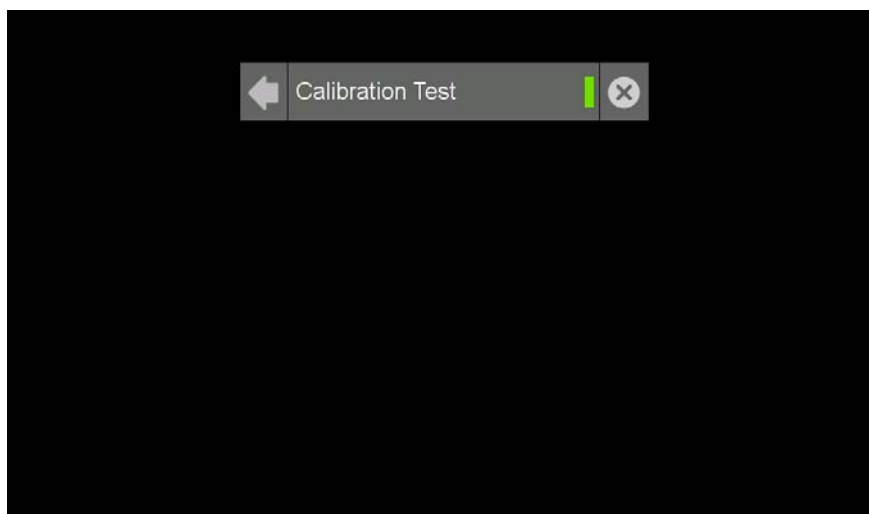

FIG. 12 Calibration Test page
In certain circumstances, you may wish to test the calibration of a panel without actually recalibrating it. The *Calibration Test* page (FIG. 12) may be used to verify the accuracy of that calibration.
3. To test the calibration of the touch panel, select *Calibration Test* to open the *Calibration Test* page (FIG. 12).